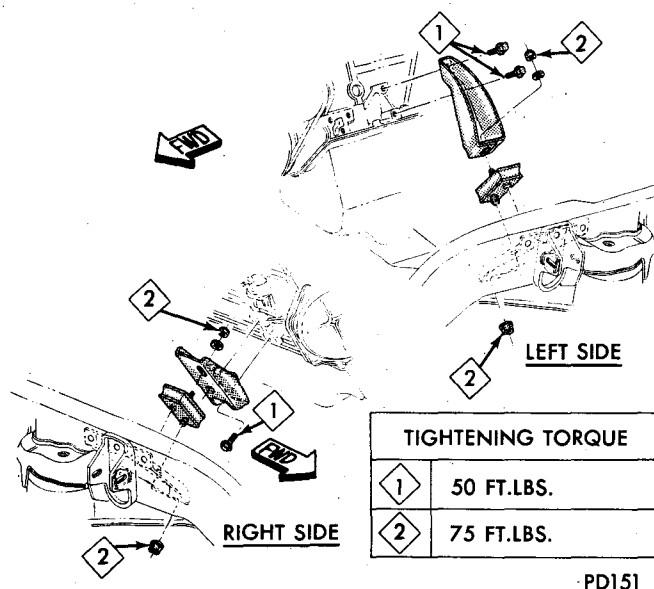
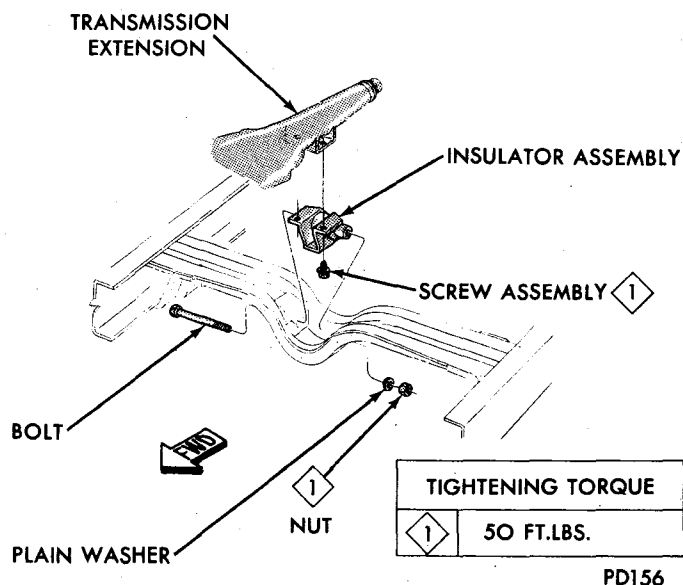

Fig. 1—Engine Mounts—Front—225 Cubic Inch Engine Models D100-200-300
Fig. 3—Engine Mounts—Rear—Models D100-200-300 and W100-200-300
(1) Install engine lifting fixture to cylinder head.
(2) Attach a chain hoist or hydro-crane to fixture eyebolt.
(3) Remove engine from repair stand and lower engine carefully until engine is positioned in chassis with front motor mount studs in place (Figs. 1, 2).
(4) Install engine support fixture Tool C-3487A (if removed from chassis) to support rear of engine. Remove hydro-crane.
(5) Remove vehicle on hoist.
(6) Install transmission and engine rear support crossmember (Fig. 3). Remove engine support fixture Tool C-3487A.
(7) Connect propeller shaft, wires, linkage, cable, exhaust pipe to manifold, (oil cooler lines and transmission filler tube if so equipped).
(8) Lower vehicle, install compressor if equipped with air conditioner.
(9) Install radiator, fan shroud, hoses and oil cooler lines.
(10) Install rotor, distributor cap and spark plug wires. Connect electrical connections at ignition coil, alternator, temperature and oil pressure sending units (oil gauge line if so equipped) starter relay-to-solenoid and engine to body ground.